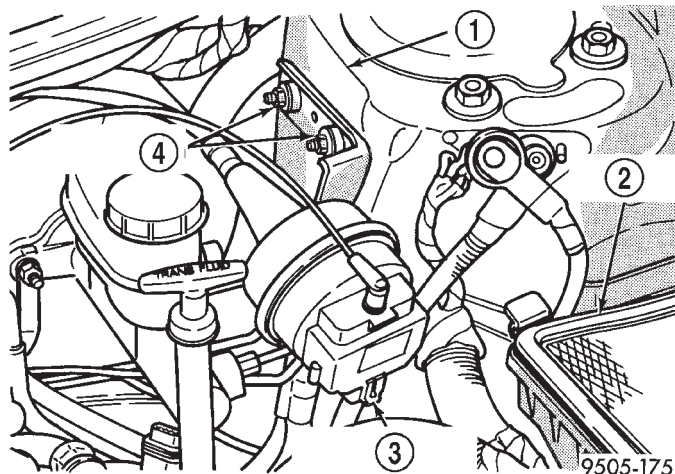

Fig. 67 Speed Control Servo Attachment To Strut Tower
(7) If equipped, remove the vehicle's wiring harness connector from the speed control servo. Remove the 2 speed control servo mounting bracket to strut tower attaching nuts (Fig. 67). Without removing speed control cable from servo, move speed control servo out of the way.
(13) If equipped, install speed control servo on the mounting studs in the left strut tower (Fig. 67). Install the 2 speed control servo bracket mounting nuts (Fig. 67). Tighten the 2 mounting nuts to a torque of 6 N·m (55 in. lbs.). Install electrical connector on speed control servo.